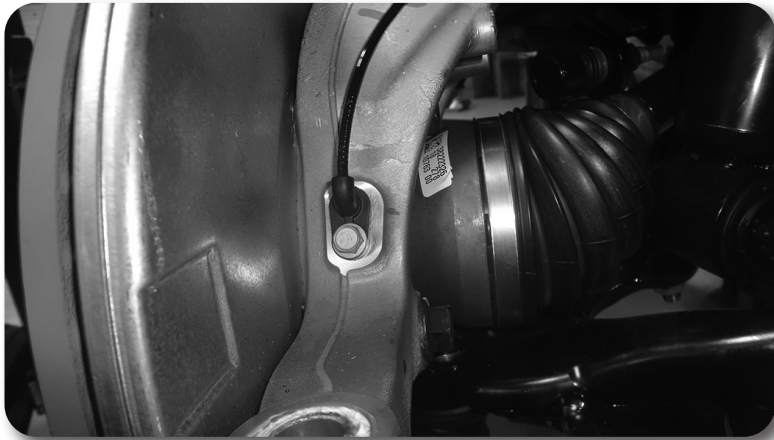

Figure 2
5. Remove the ABS sensor from the steering knuckle Fig. 2.